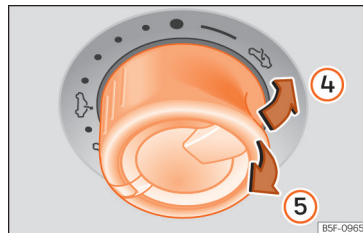

Fig. 13 On the internal roof: press or pull the knob to raise the sunroof and close it.
- Lift: Push the switch to position »» Fig. 13 ④.
- Lower: pull the switch to position »» Fig. 13 ⑤.